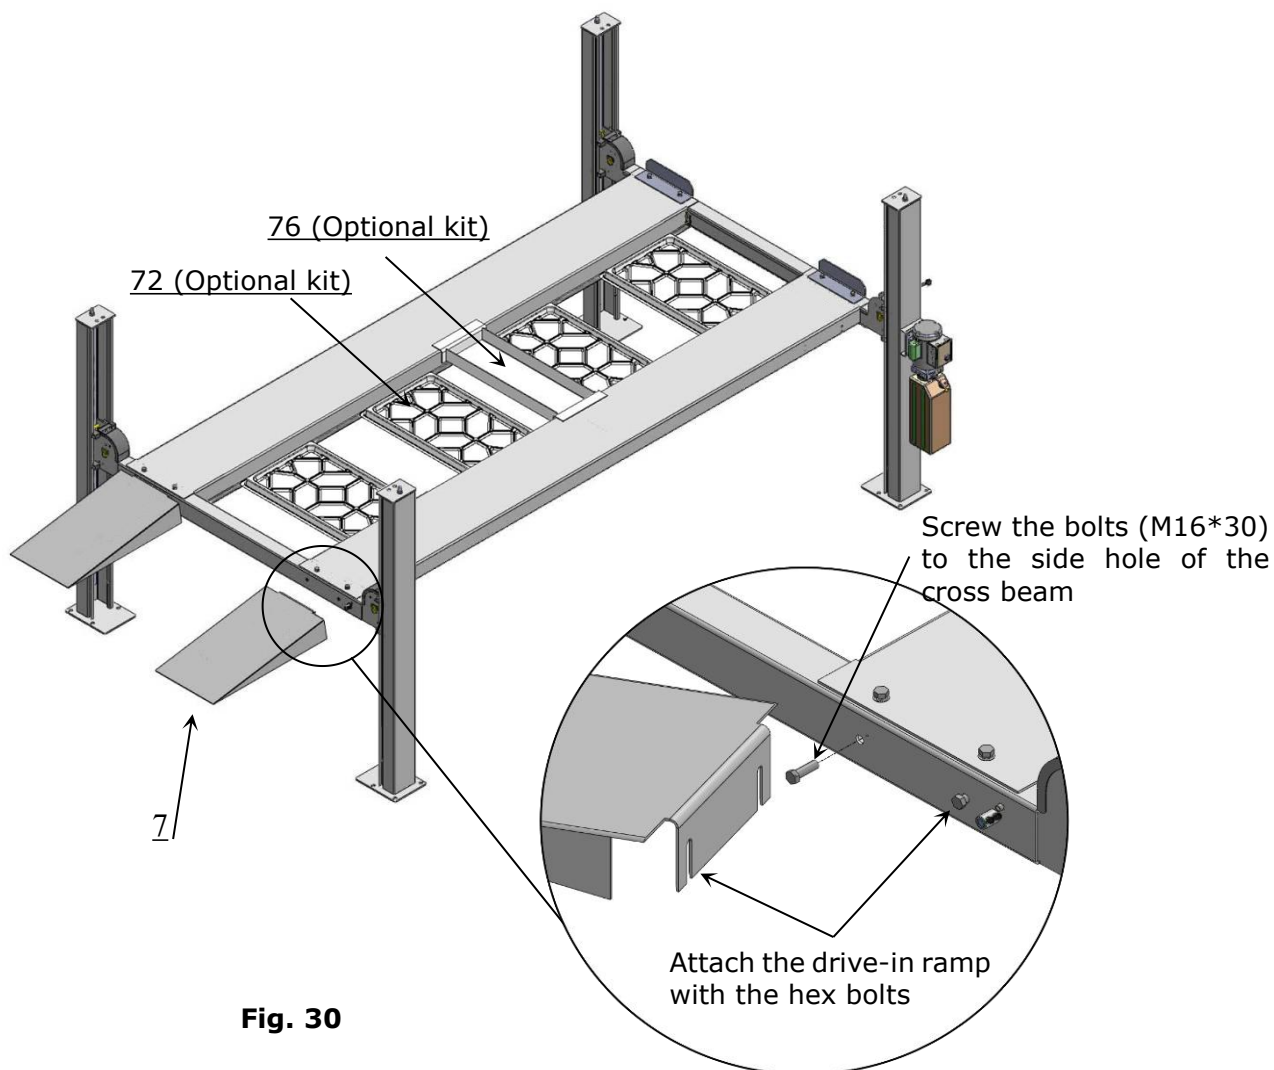

Fig. 30
N. Install drive-in ramp, jack tray and plastic oil tray (See Fig. 30).